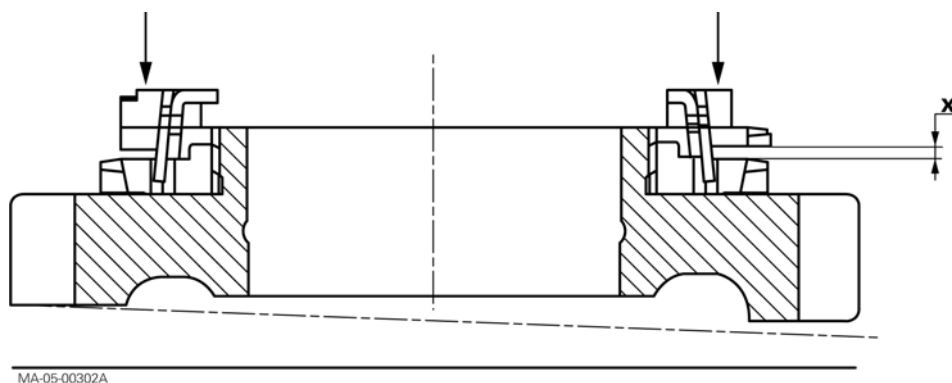

Fig. 4
1. Stack the coupling flange (3), cones (2) and (8) and ring (7).
2. Correctly position the ring (7) on the cones (2) et (8), revolving them alternately each several turns and applying pressure manually.
3. Using a set of laminated shims, measure dimension X (Fig. 4) at three equidistant points.